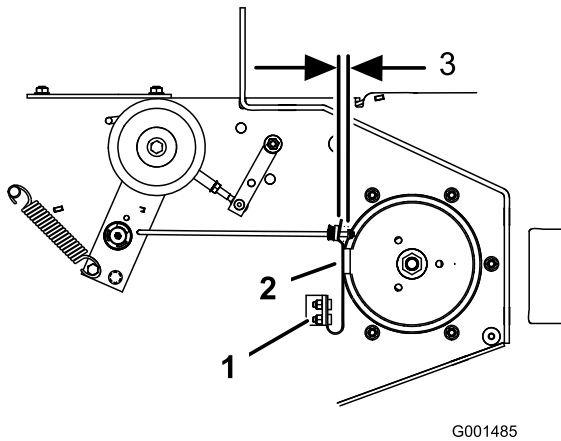

Figure 58
3. If necessary, adjust the spring mounting bolts so that the blade-brake pad rubs against both sides of the pulley groove (Figure 58).
4. Adjust the nut at the end of the blade brake rod until there is 3 mm to 5 mm (1/8 to 3/16 inch) between the nut and the spacer (Figure 58).